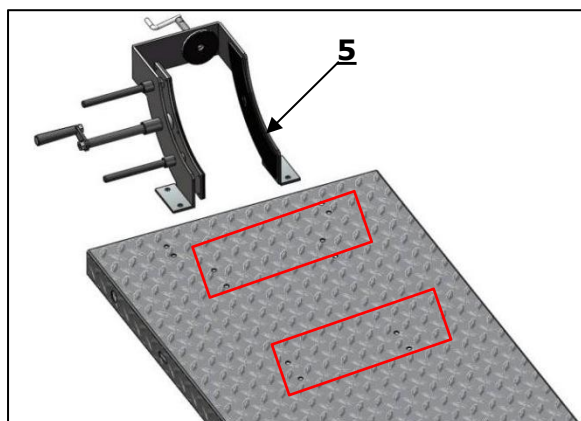

Fig.12
1.The wheel vise can be installed in two positions on the platform, allowing users to choose their preferred installation position. **(See Fig 12)**